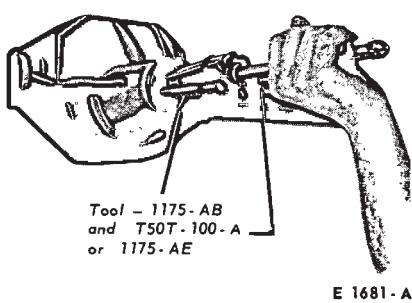

FIG. 8—Removing Pinion Seal
7. Using the tool shown in Fig. 8, remove the drive pinion oil seal.